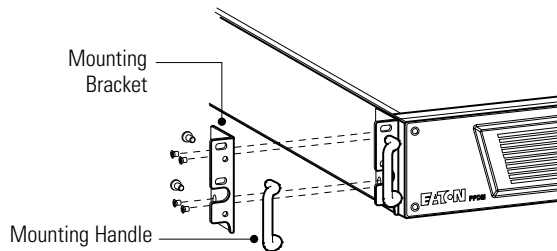

Figure 2. Installing the Mounting Handles and Brackets
7. Attach the provided mounting handles to the mounting brackets and secure with the provided screws (see Figure 2).